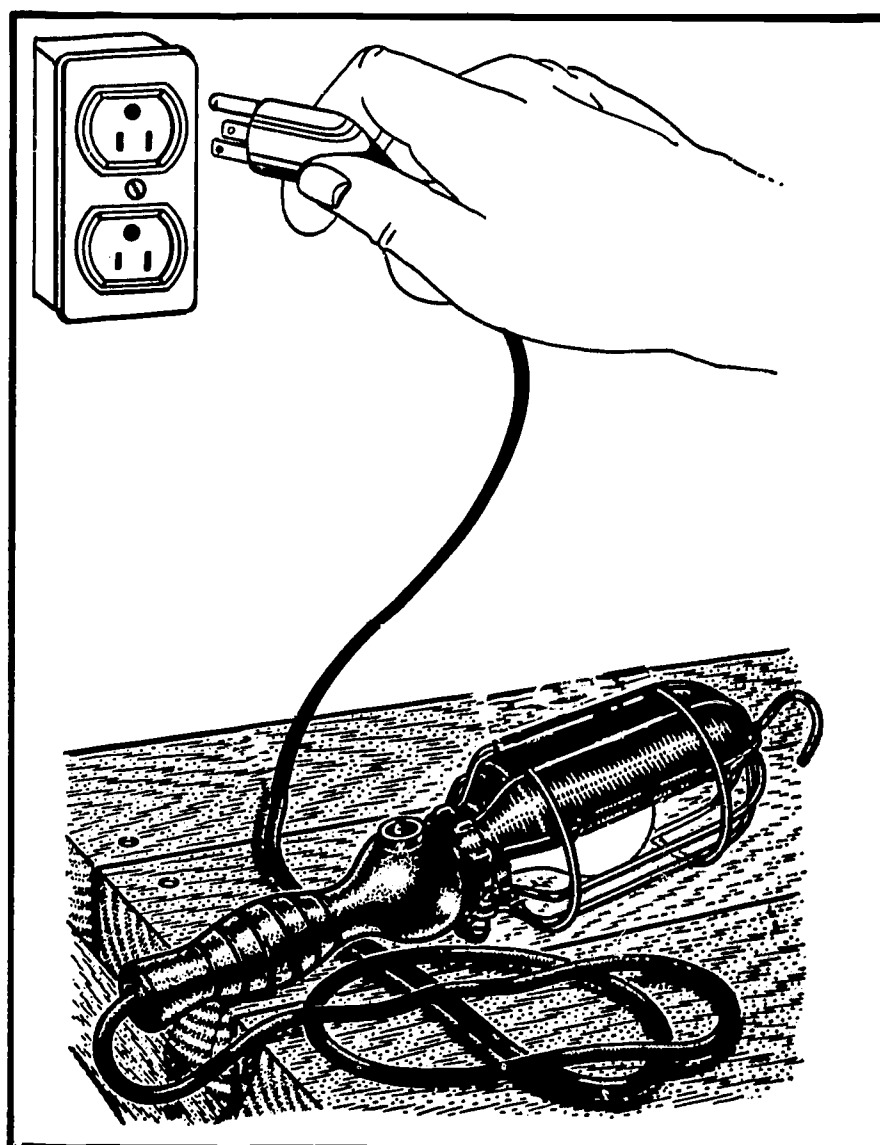

FIGURE 50. Checking the electric power source.
7. Check the source of electric power (Figure 50).